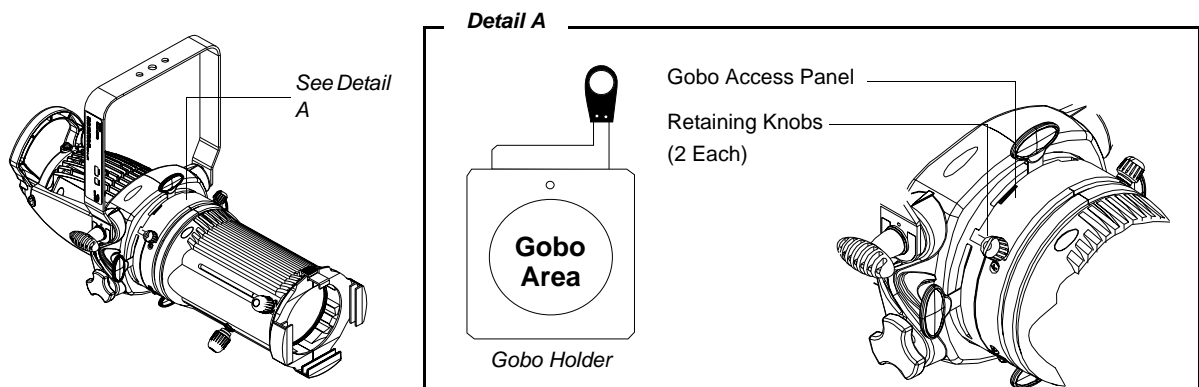

Figure 9: LEKO LITE Luminaire Gobo Holder and Gobo Installation
- Step 1. As shown in Figure 9, loosen, but do not remove, two retaining knobs that secure gobo access panel. Slide open gobo access panel.